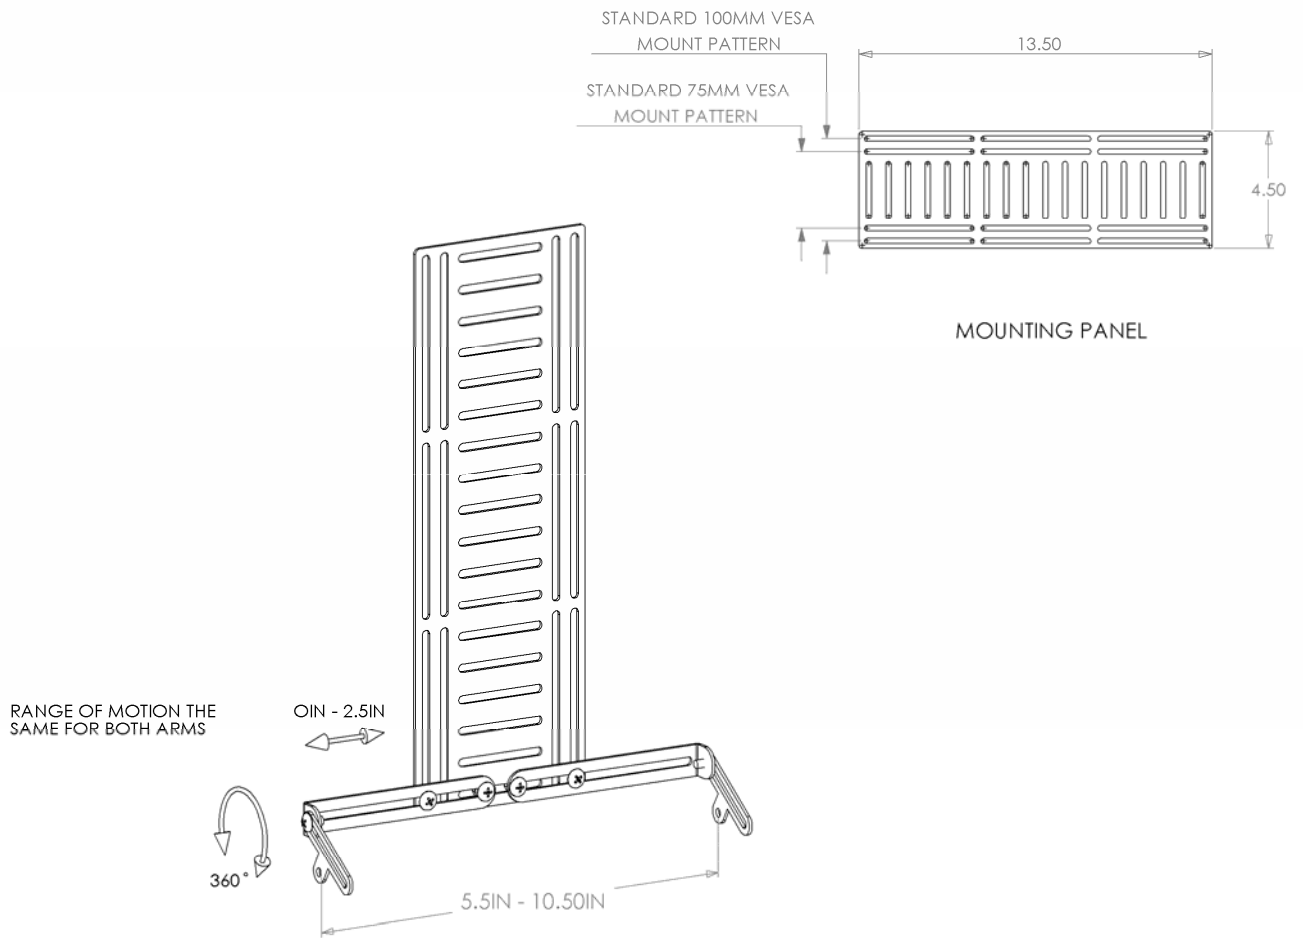

Figure 1 - Back of Screen Controller Mount
1. Examine the contents of the optional *Back of Screen Controller Mount* hardware kit (See Figure 1). Note that the arms and tee tangs of the hardware kit can be custom configured to attach a wide variety of bump bars, card swipes, speakers, etc. to the mounting plate.